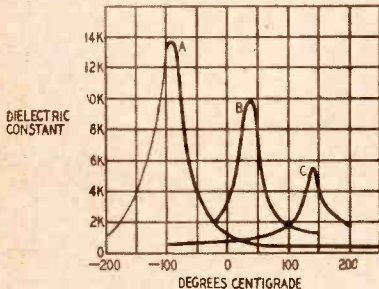
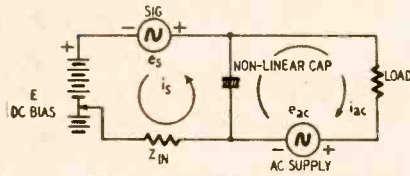
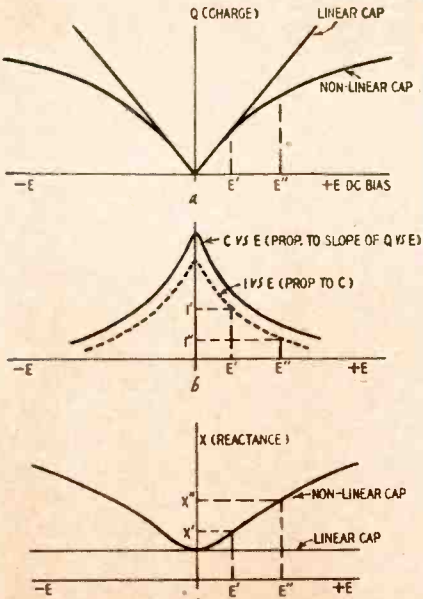
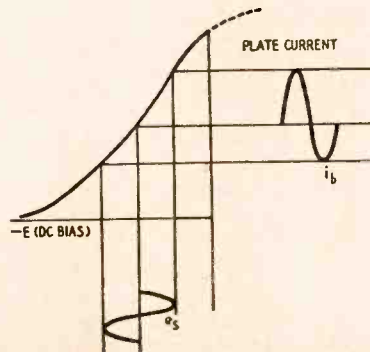

Fig. 1—Graph shows the variation of dielectric constant with temperature.
Fig. 2—Basic dielectric amplifier.
Fig. 4—Series of curves showing the characteristics of nonlinear capacitors.
Fig. 5—Nonlinearity of tube curve.
variable dielectric constants (K). Temperature, voltage, and frequency all help in determining the value of K. Most present amplifiers use a mixture of barium titanate and strontium titanate. Records show values of K between 1,500 and 10,000 as the Curie point (the temperature at which the dielectric constant is maximum). Fig. 1 shows how the constant changes with temperature but does not show changes with voltage and frequency.
Figs. 2 and 3 show the basic circuits for dielectric and vacuum-tube amplifiers. The similarity is apparent except for the supply voltages. The charge curve for a nonlinear capacitor appears in Fig. 4-a. For d.c., this means that as one increases the voltage the electric
dipoles (equivalent to charge) begin to line up. But, increasing the voltage an equal amount each time does not mean the same number of electric dipoles line up; consequently, the curve is not a straight line. The curve of charge *versus* d.c. voltage for a linear capacitor is included for comparison. A d.c. voltage on the capacitor represents a bias and is similar to the grid bias of a vacuum tube. The variation of the dielectric constant with d.c. voltage is similar to the curves of Fig. 1, with temperature and frequency constant. Figure 4-b is a composite curve which shows that the capacitance of the capacitor is proportional to the slope or steepness of the Q vs E curve. It also shows that the alternating current flowing into the capacitor is, by Ohm's law, directly related to the capacitance; therefore, the I vs E curve will have the same general shape as the C vs E curve. Since the slope of Q vs E is greatest at the origin, one would expect the capacitance and current to be maximum with no d.c. voltage applied. As the bias increases on the Q vs E curve, the slope decreases; thus, C and I become smaller. The reactance of the capacitor, by Ohm's law, depends on $1/C$, as seen in Fig. 4-c. Therefore, when C is large, X is small, and *vice versa*. The nonlinear nature of the vacuum tube is illustrated in Fig. 5.
Suppose one puts a bias voltage, E' , on the nonlinear capacitor (Fig. 4-c); this gives a reactance, X' , and some current, I' , flows in the load. Increasing the voltage to E'' , now gives a higher reactance, X'' . Apparently the alternating current to the load decreases to I'' . In practice, the change in voltage from E' to E'' is quite small, but changes in reactance are large, giving large current changes. This discussion gives an idea of how one controls current to the load. But, how about amplifying a signal?
Referring to Fig. 2, amplification of e_s is the objective. E is the bias voltage, $e_{h.c.}$ is the high-frequency supply. The impedance, Z_{in} , should be large to the supply frequency so that very little current from the supply flows in the first branch. Setting the bias to E' establishes a value for the dielectric constant